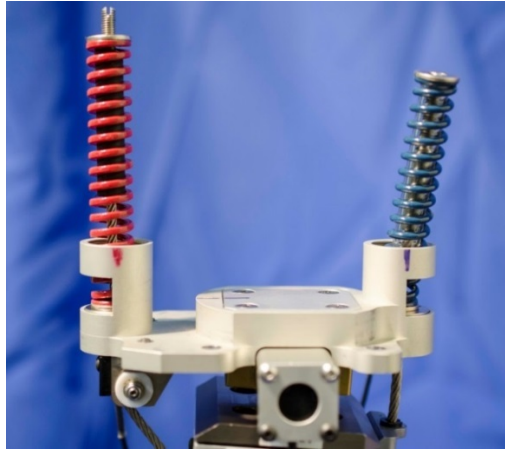

Figure 4-42. Insert cables into neck springs
4.2.2.30 Pass the threaded end of the front and rear neck cable assemblies up through the front and rear spring tube assemblies in the Neck / Head Mounting Platform (472-2210) (Figure 4-42).